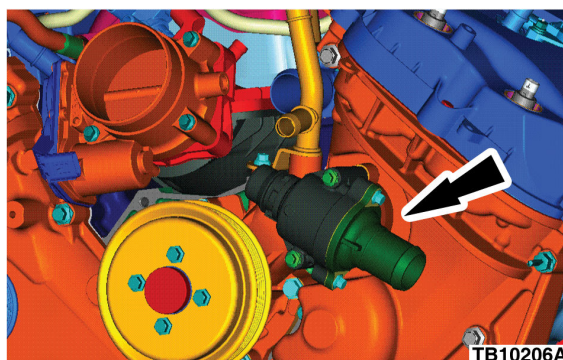

Figure 1 - Article 14-0156
3. Using a mechanic's stethoscope or EngineEAR, listen for a metallic type rattle or scratching type noise at the front of LH cylinder head. Is the noise heard in areas shown? (Figures 1 and 2)
5. Is the noise heard in the areas shown? (Figures 1 and 2)